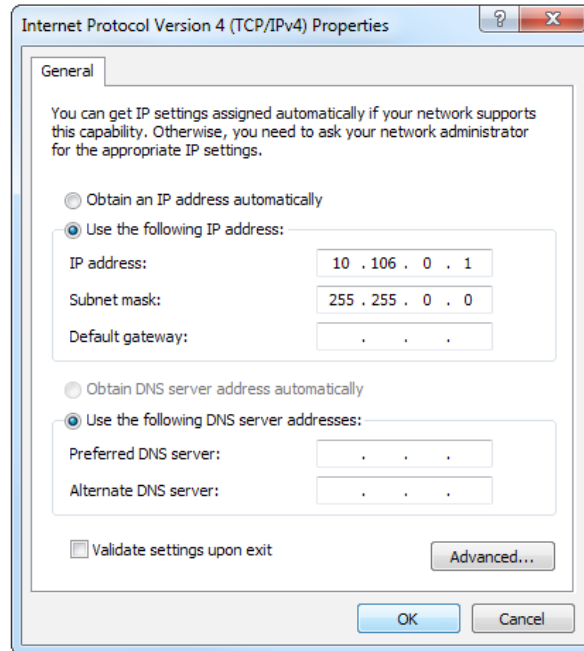

Figure 17 – Point-to-Point Communication TCP/IPv4 settings
10. In order for the point-to-point connection to function properly, the Internet Protocol Version 4 (TCP/IPv4) Properties must be configured as follows (shown in Figure 17 below).